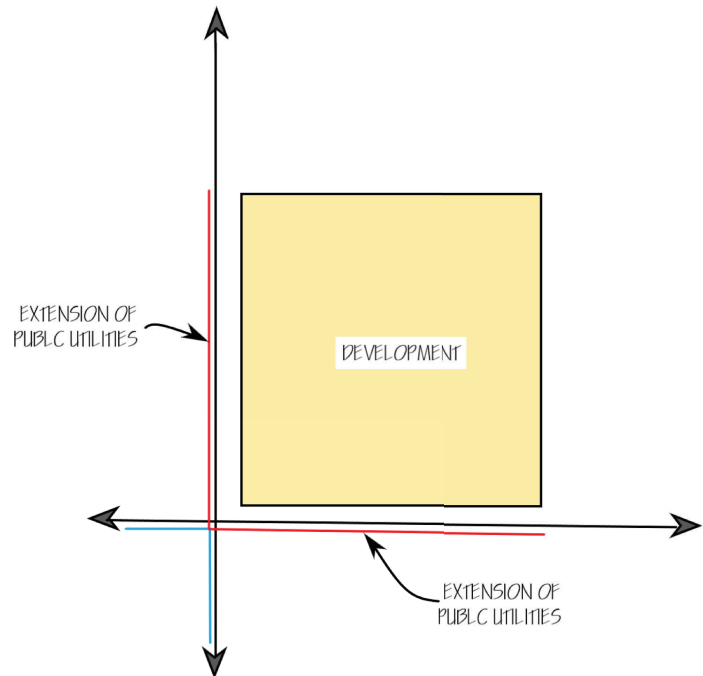

Figure 28 - Section Corner Extension
- 3.1. When a building permit is required for any major improvement(s) to the lot and/or tract of land, the property owner(s) must update the water and/or wastewater utilities to comply with current Oklahoma City Standard Specifications for Construction of Public Improvements as well as this Manual if existing or proposed utilities are within one hundred (100) feet of the lot and/or tract of land. See Figure 28.
- 3.2. Where an alteration to an existing building or use that requires additional plumbing fixtures, a utility main extension(s) is/are required, if the building is within one hundred (100) feet of an existing water and/or wastewater main. See Figure 28.